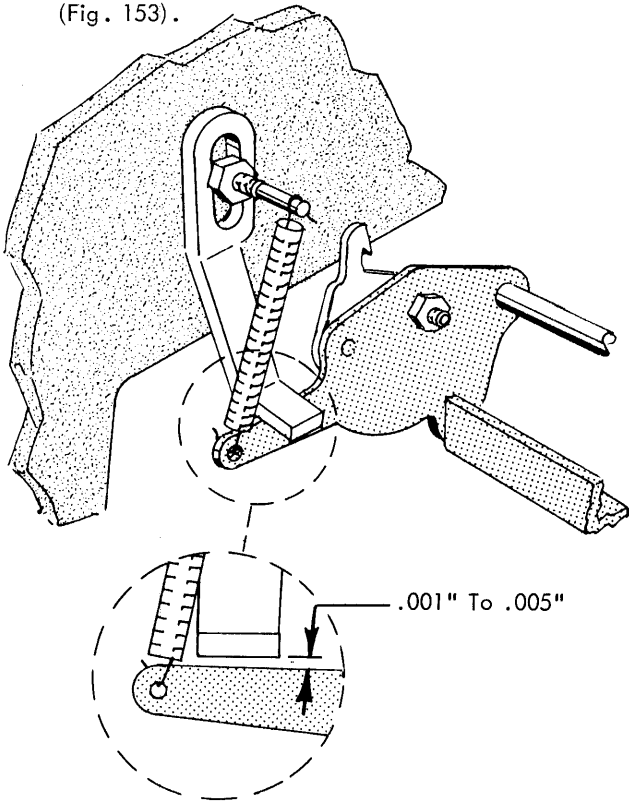

FIGURE 153. Trigger Lever Upstop (Long Carriage Only)
9. Trigger Lever Upstop (long carriage machines) - With the machine at rest and a clearance of .007" to .010" existing between the trigger and the lug on the torque bar, adjust the trigger lever upstop so that it has a clearance of .001" to .005" with the trigger lever (Fig. 153).